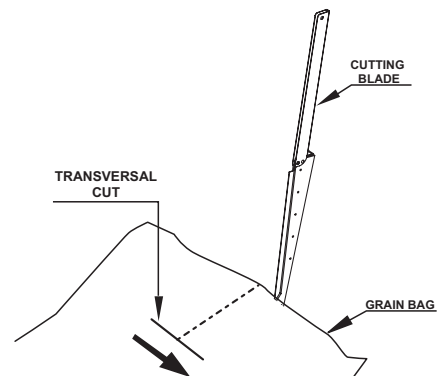
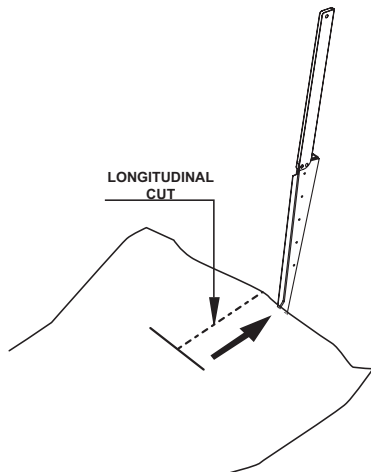

Figure 5.16 - Transversal cut
Figure 5.17 – Longitudinal Cut
4) Check once again that the machine's cutting blade is aligned with the cut previously made on the top of the bag. If the cut on the grain bag were not continued normally, the extractor would be subjected to excessive efforts and the grain bag would run the risk of being torn. If the cutting blade stops cutting, a small transversal (figure 5.16) cut must be made on the grain bag in order to align it with the blade by means of a longitudinal cut as shown in the following figure 5.17.